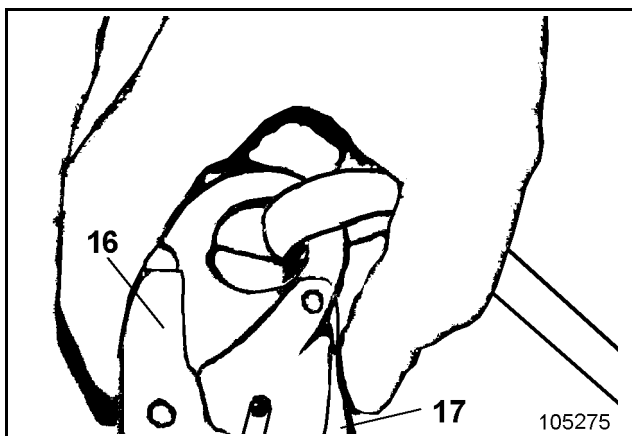

Fig. 2-55:
- Release hooking safety device (17, Fig. 2-55:).